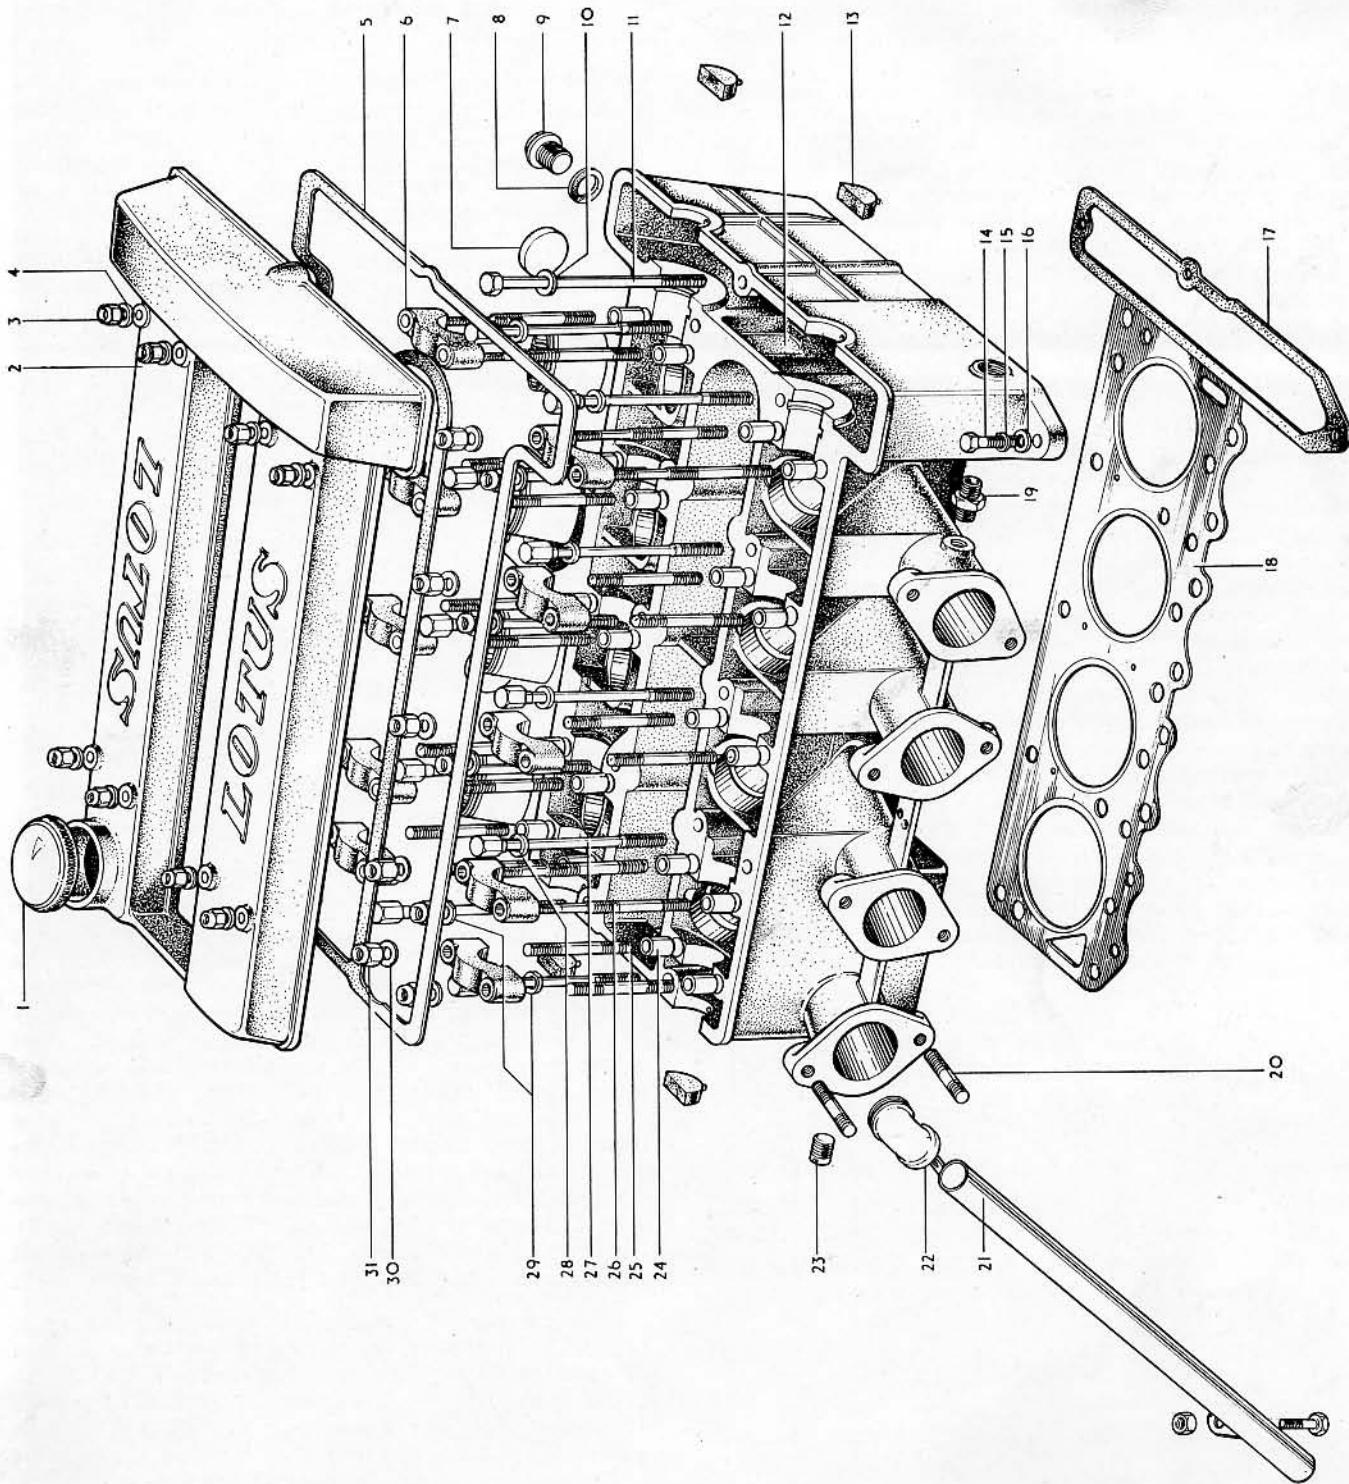
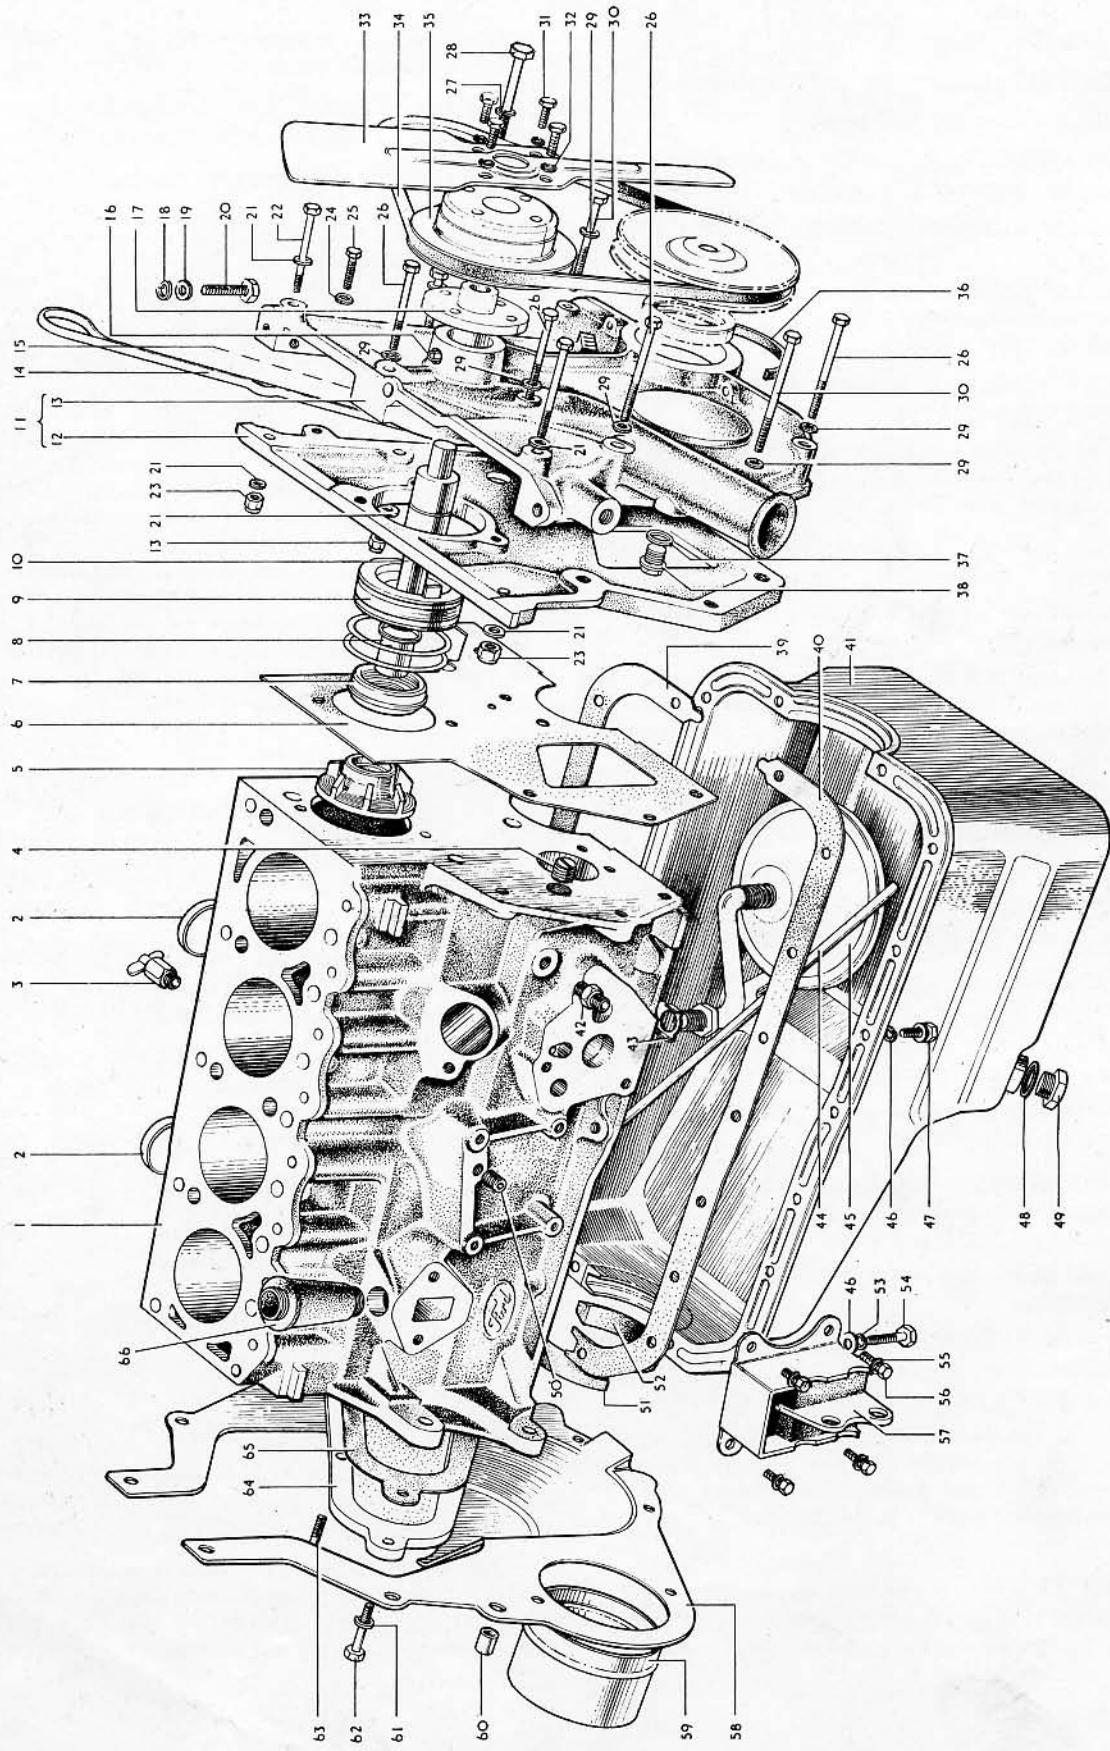

Fig. 5—CYLINDER HEAD COMPONENTS
Fig. 8—CYLINDER BLOCK AND WATER PUMP COMPONENTS
Remove the cylinder head to timing case clamp bolt (item 11 fig. 5) and the two smaller $\frac{1}{16}$ in. clamping bolts (item 14 fig. 5) and (item 20 fig. 8).